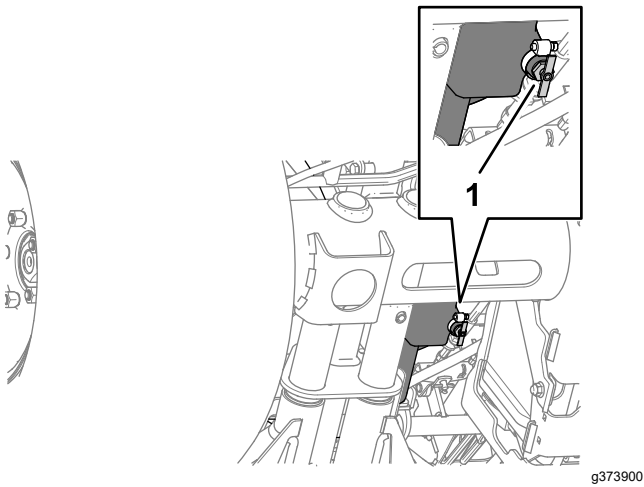

Figure 89
2. Align a drain pan under the fuel tank-drain valve (Figure 89).